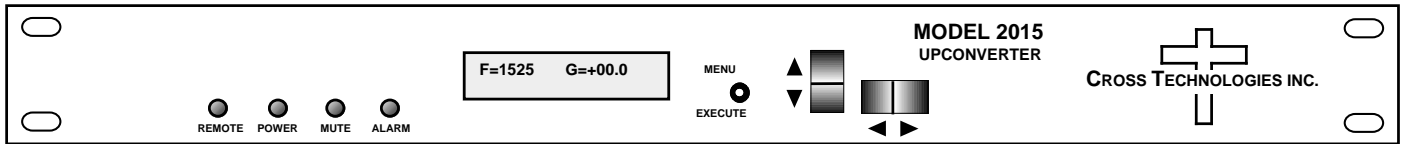

FIGURE 2.2 2015-04-720 Front Panel Controls and Indicators
7. Be sure DS6 (green, DC Power) is on and DS2 (red, Alarm) is off (Figure 2.2).
Alarm indications appear on the LEDs (see figure 2.2).